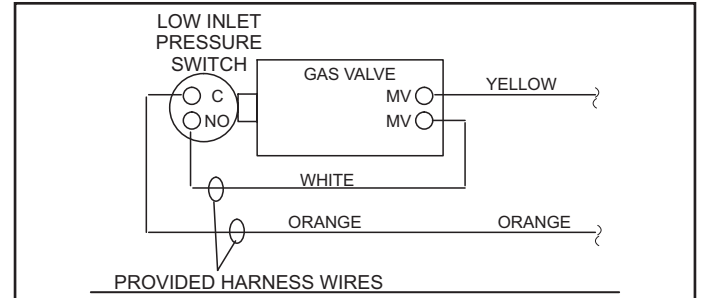

Figure 6. Low Inlet Pressure Switch Wiring Point-to-Point Wiring Diagram
11. Thread pressure switch to fitting 2 to 3 turns past hand tight, then wire as shown in Figure 6.